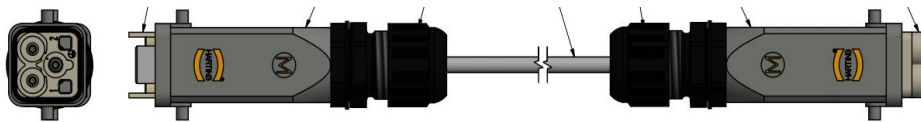
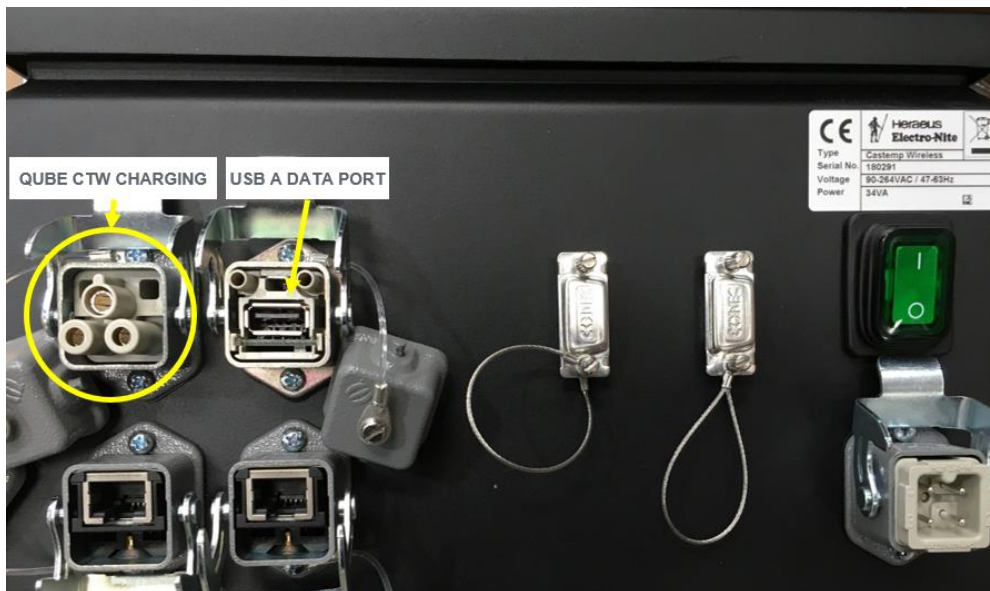

Figure 7: CTW CHARGING CABLE
Figure 8: Connecting the CTW CHARGING CABLE to the CTW Instrument
- Plug in the CTW CHARGING CABLE (Figure 7) as supplied into the dedicated (5V) charging port socket on the underside of CasTemp Wireless instrument (highlighted yellow circle) as shown in Figure 8: Connecting the CTW CHARGING CABLE to the CTW Instrument